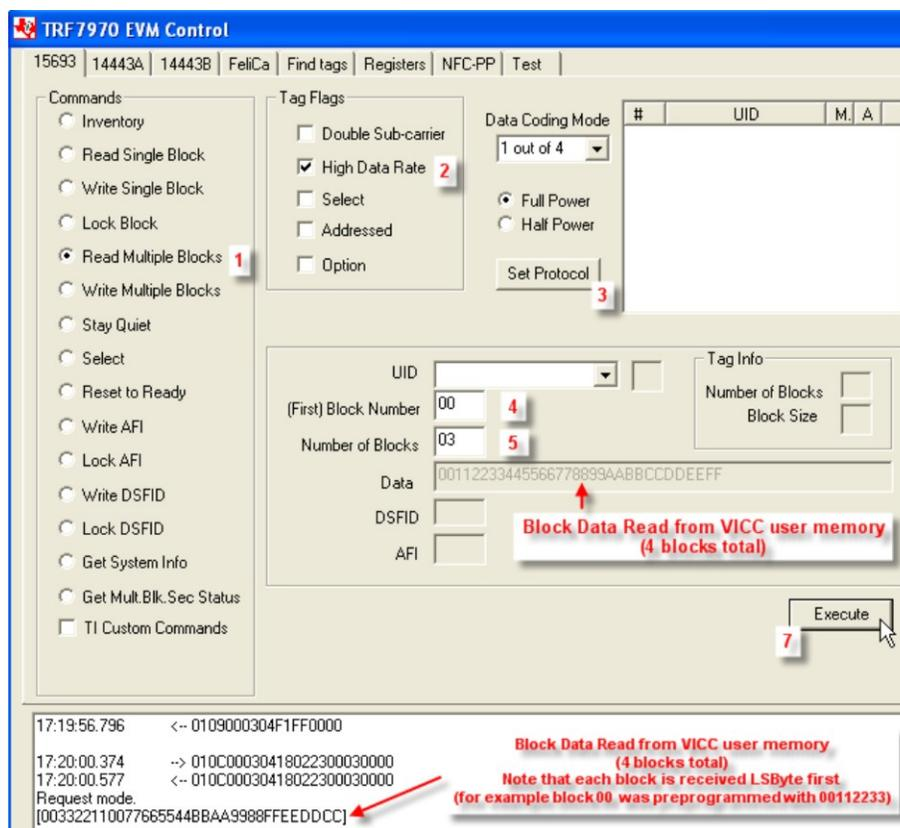

Figure 10. Read Multiple Blocks Command Example
2. Select Tag Flags accordingly (see Figure 10 for one example)